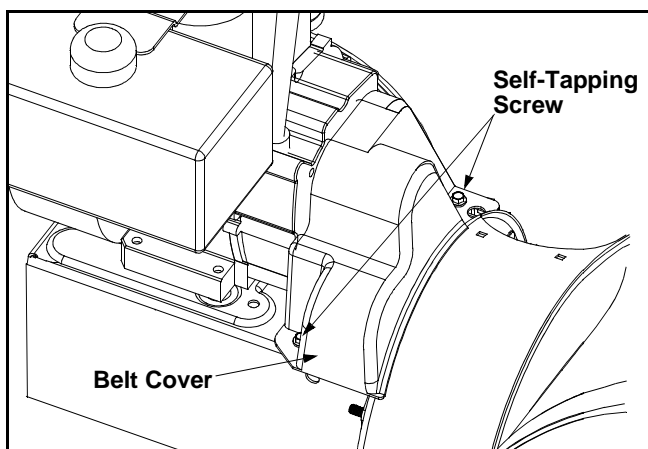

Figure 13
- Remove the plastic belt cover at the front of the engine by removing the two self-tapping screws. See Figure 13.